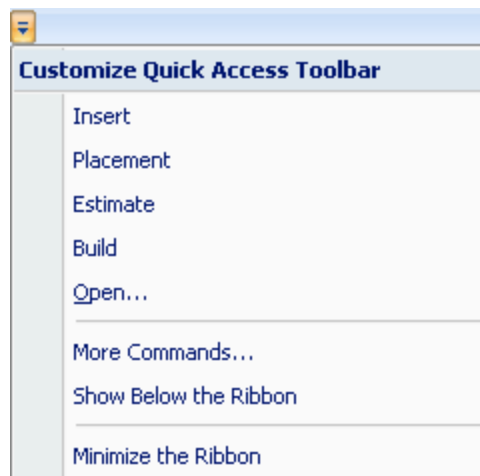

Figure 5-63 *Customize Quick Access Toolbar* menu
- From the *Customize Quick Access Toolbar* menu (see Figure 5-63 on the previous page), select *More Commands*.